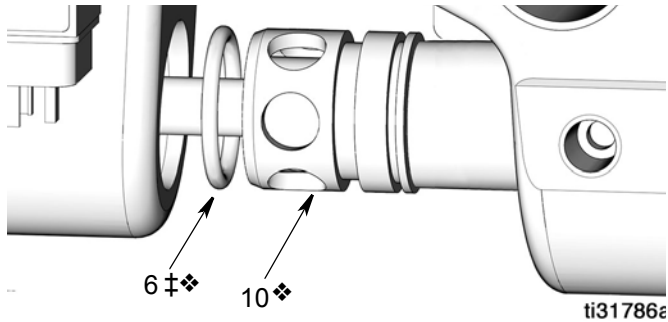

FIG. 23
16. Push seal retainer (9❖) into pump base (2).
17. Partially install pump cylinder (11❖) in pump base (2).
18. Lubricate o-ring (6‡❖) and install it around the shovel seal retainer (10❖) (FIG. 23).